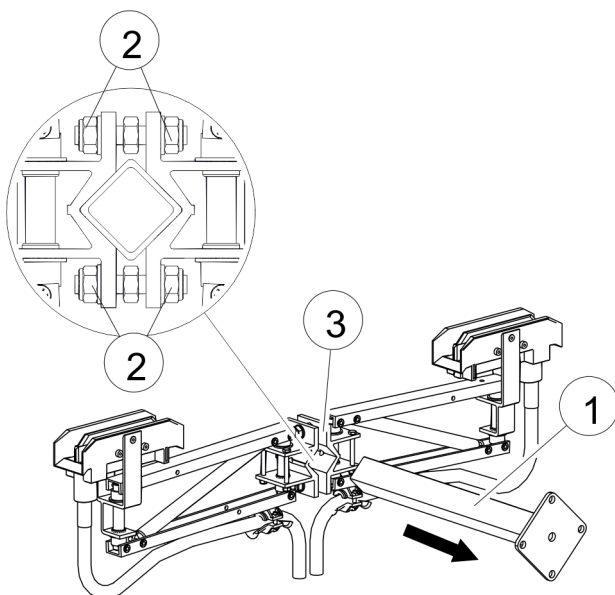

Fig. 121: Mount the towing arm
- Tension the towing arm (Pos. 1) in the middle support (square) (Pos. 3) of the current collector. At the same time, gradually tighten the outer M10 nuts (Pos. 2) in alternation with an SW 17 torque wrench (torque for galvanized: **30 Nm**, torque for stainless steel: **20 Nm**) (see Fig. 121). Pay attention to the tolerances and instructions provided above.